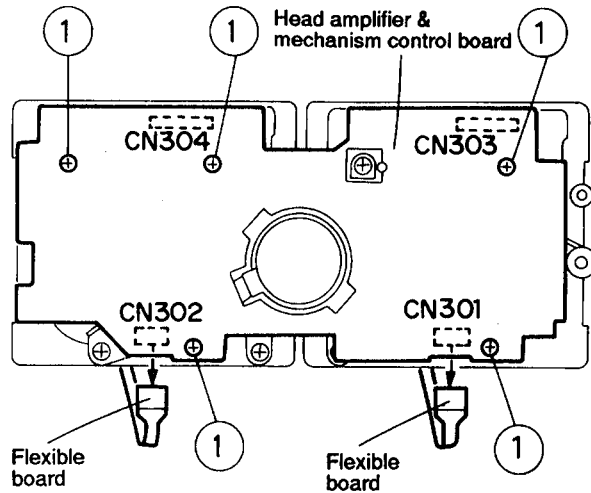

Fig.5-27
■ Removing the Head Amp. & Mechanism Control P.C. Board (See Fig. 5-27)
2. After turning over the cassette mechanism assembly, remove the five screws ① retaining the head amp. & mechanism control P.C. board.